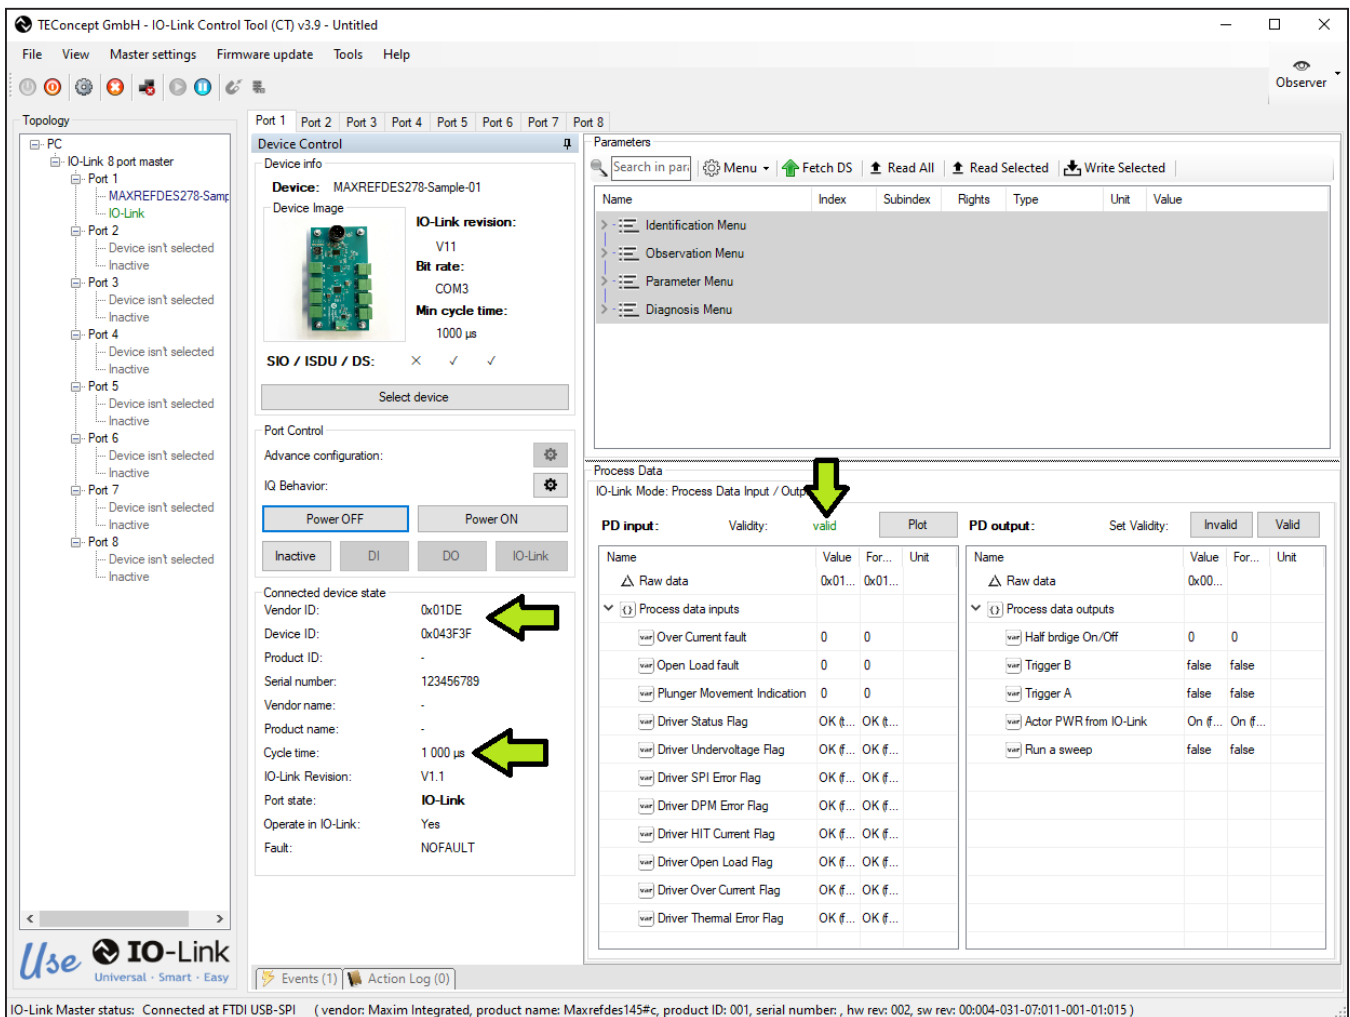

Figure 7. Successfully communication established in the IO-Link Control Tool software.
- 9) If communication is established correctly as shown in Figure 7, the IO-Link Control Tool software shows the Vendor ID, Device ID, Cycle time, as well as the Process Data input (PD input). Next to the PD input it should show **Validity: valid** in green. This means the Master is successfully communicating with the IO-Link Device.